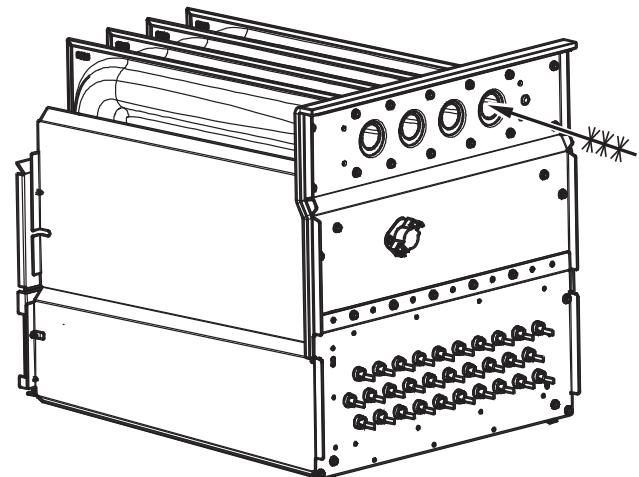

Fig. 63 - Cleaning Heat Exchanger Cell
7. Clean heat exchanger openings with a vacuum and a soft brush. See Fig. 63.